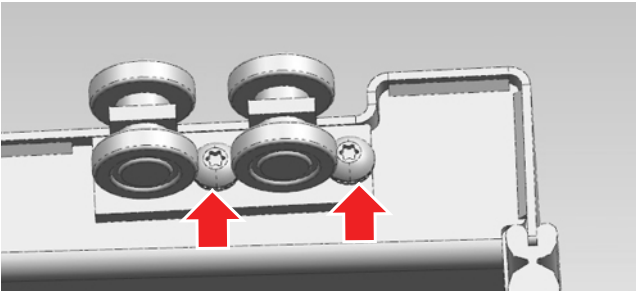

Figure 3
5. Locate the door wheels at the top of the door and remove the mounting bolts from the cab door wheels (both sets of wheels) and discard the bolts. Set the wheels aside for reinstallation (see Figure 3).